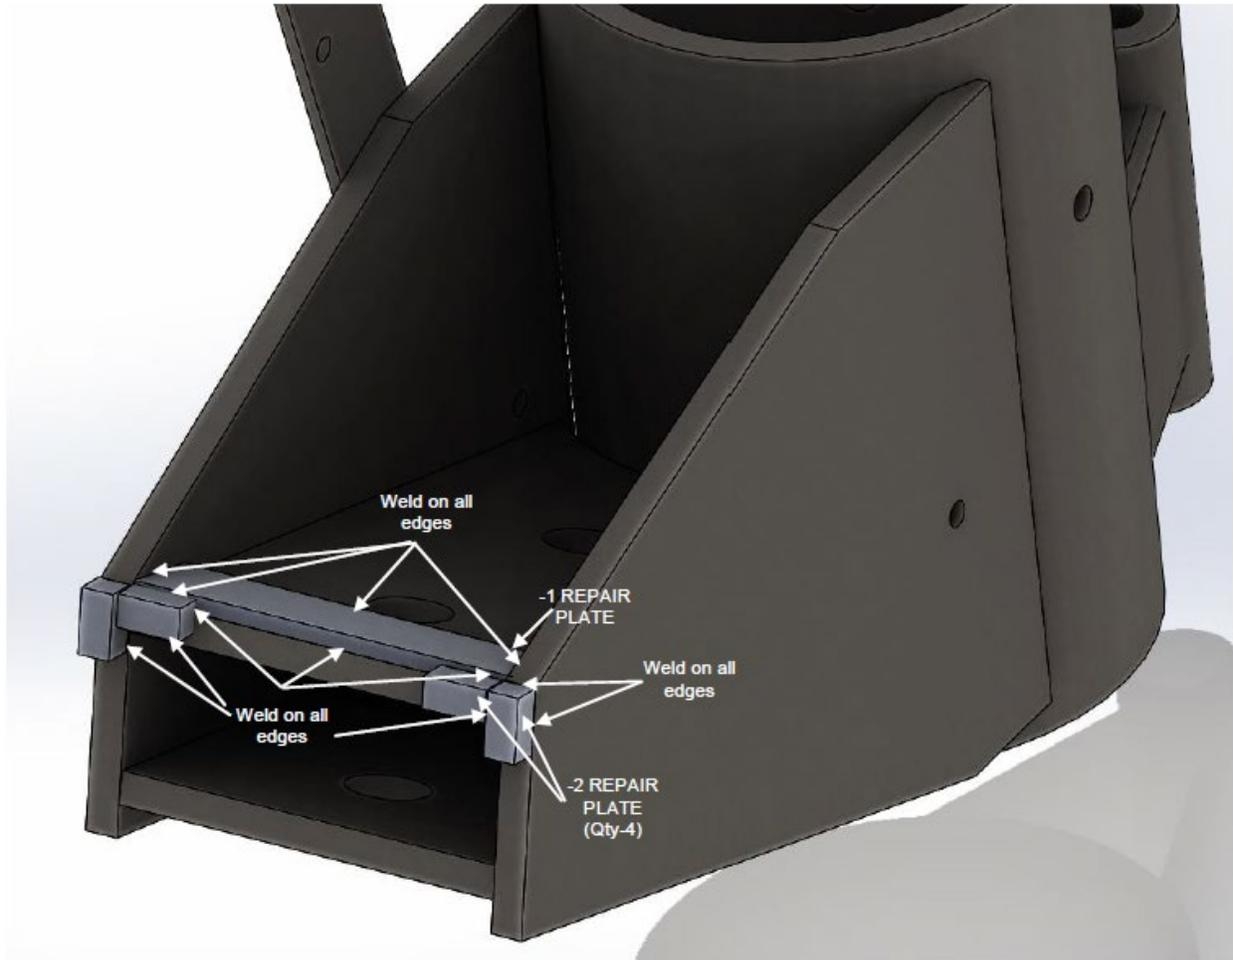

Figure 3
6. Weld -1 and -2 Repair Plates as shown in Figure 3 using accepted procedures. As/if required grind existing welds flush to existing structure during installation of -1 and -2 Repair Plates.